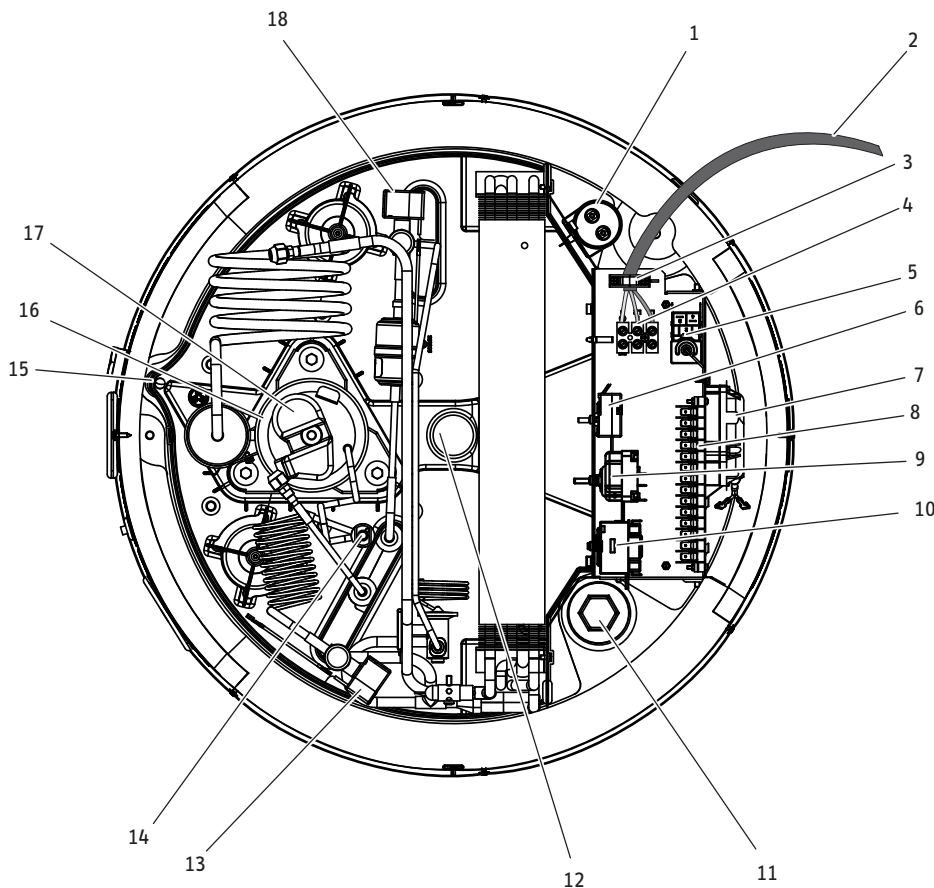

Fig. 3
The appliance is intended to be permanently connected to fixed wiring. For the connection to the power supply the fitted supply cord has to be used. (Fig. 3, pos. 2)
At temperatures below - 10 °C (e.g. transport/storage), the safety temperature cut-out may respond. Press the reset button after the temperature is much higher than -10 °C (Fig. 3, pos. 10).
When the source of the fault has been removed, reset the high limit safety cut-out by pressing the reset button (Fig. 3, pos. 10). The heat pump top cover should be opened for access to this device as shown in Fig. 3.
The safety high pressure limiter shuts down the compressor, if the pressure inside the refrigerant circuit exceeds the permissible maximum value. The safety high pressure limiter may also respond, if the appliance is operated above its permissible limit (>42 °C air temperature) or the control thermostat of the heat pump fails to respond. Reset the high pressure limit safety cut-out by pressing the reset button (Fig. 3, pos. 14), after the cause of the fault has been removed.
An anode for the protection of the DHW cylinder is inserted centrally from the top into the DHW cylinder of the appliance (Fig.3, pos. 12). The anode fitted at the factory (anode rod) is approximately 1.26 m long.